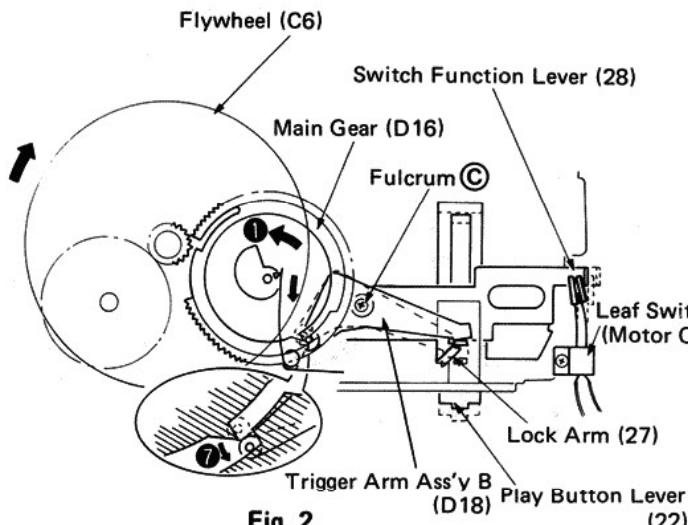

Fig. 2
- 1 In Fig. 2, when the PLAY button is pressed, the trigger arm assembly B (D18) and the switch function lever (28) are pushed by the play button lever (22) and locked by the lock arm (27).
- 3 As the trigger arm assembly B (D18) rotates around fulcrum ④ in the direction ⑦, the main gear (D16) is released and turns in direction ① to mesh with the gear of the flywheel (C6). (Fig. 2)